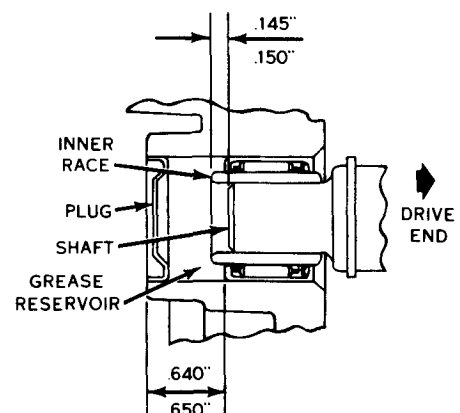

Figure 21—Bearing assembled between shaft and housing.
To replace the rectifier end frame bearing: Figure 21 only.
- b. Assemble new inner race and bearing as shown in Figure 21. Assemble bearing seal toward drive end. Press